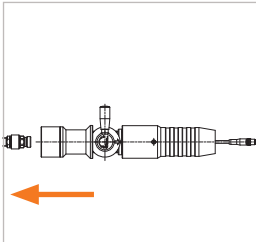

Figure 9
- ▶ Lift the hose on the fueling nozzle slightly and pull the fueling nozzle straight off the receptacle (Figure 9).